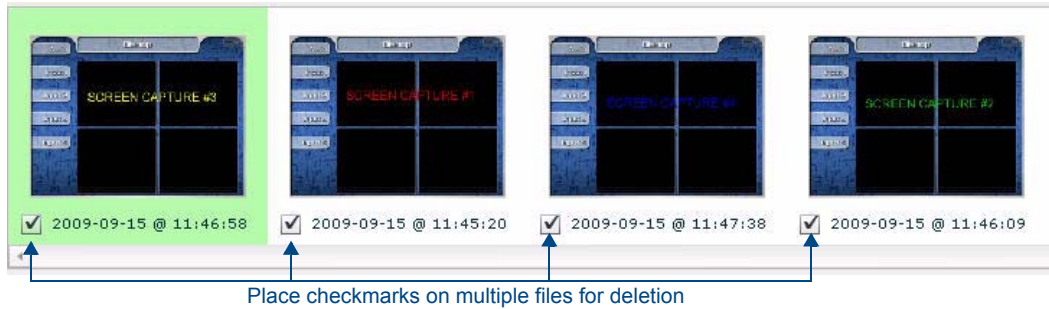

FIG. 121 Multiple files checked for deletion
2. In the Thumbnail Images window, place a check in the checkbox of each image file that you want to permanently delete from the TPI's local disk (FIG. 121).